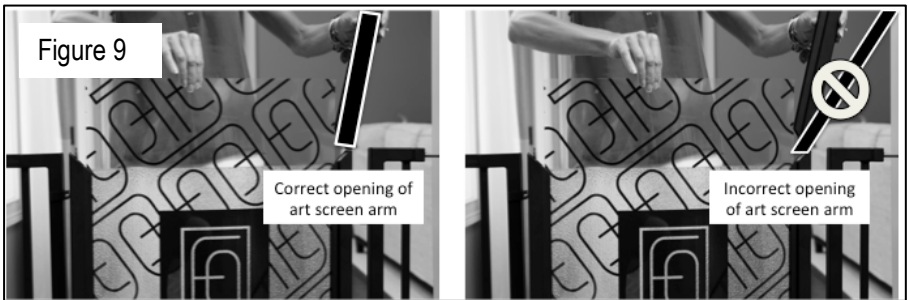

Figure 9
Step 2: Lift the access bar being careful not to overextend. See Figure 9.
replace with your choice of art screen (Figure 9). To protect your panel from scratching, place the textured polycarbonate panel toward the space your pet/child will occupy most frequently. Keep envelope to store additional art screens.